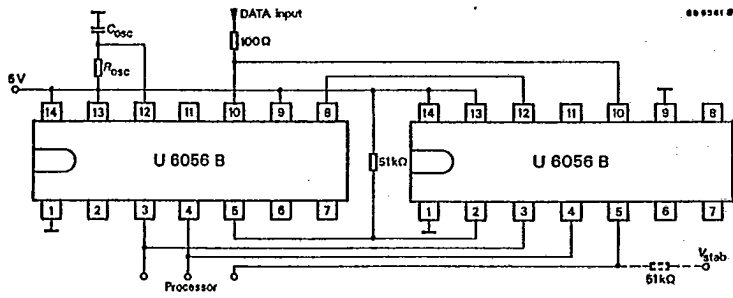

Fig. 16
- CLK and P/S are parallel-connected in each case. $DOUT_{MASTER}$ and DIN_{SLAVE} are connected with each other. The 16-bit data word can be read out serially via $DOUT_{SLAVE}$ in one operation, Fig. 16.